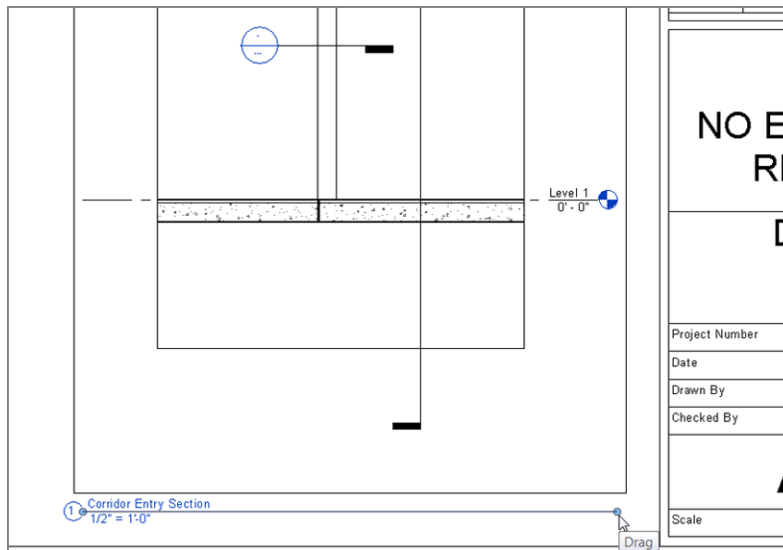

FIGURE 14.14: Stretching the view title line to the right using the blue grip
10. Zoom in on the view title for the Corridor Entry Section, as shown in Figure 14.14.
12. Extend the line by stretching the grip on the right to the right (see Figure 14.14).